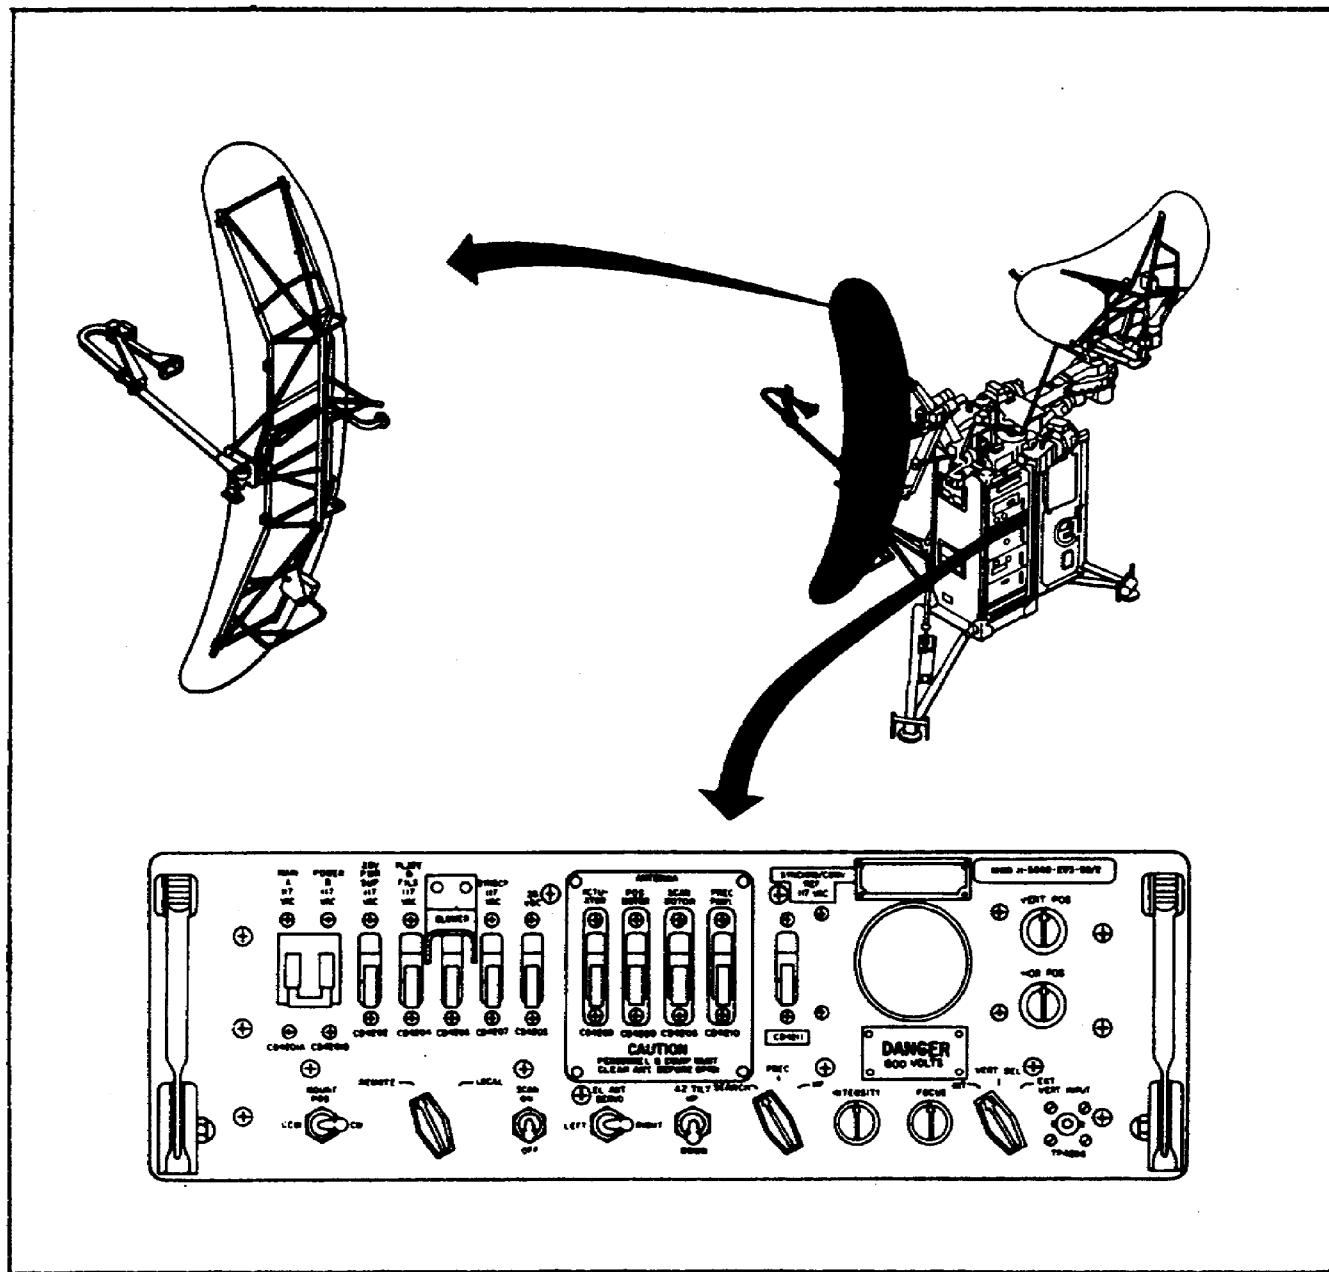

Figure 26. Receiver-transmitter group OA-2667/FPN-40.
(See Figure 26.)
- Elevation antenna AS-1080/FPN-40 (Figure 26)
- Control monitor C-2124A/FPN-33 (Figure 26)